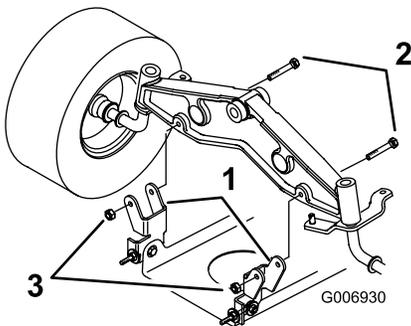

Figure 54
7. Install the cutter deck pivot mount brackets onto the front axle with the bolts and locknuts (Figure 54).